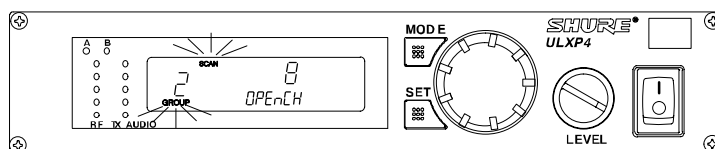

FIGURE 39
3. When all Groups have been scanned, the Group with the most open Channels will appear on the display, as shown in Figure 39.